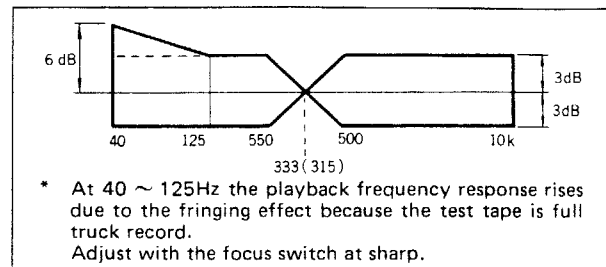

Fig. 8
(5) Playback frequency response check (Refer to Fig. 8)
- b. With the playback frequency response check tape, 3180 + 120μs (LH) or 3180 + 70μs (CrO₂), check that the 10kHz playback level lies within 0 ± 3dB of the 315Hz playback level.